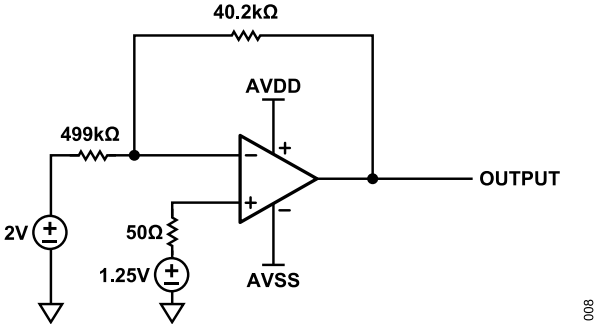

Figure 6. DC Voltage Source Input Test Circuit, Default Gain State
6. Retain the default gain settings. Leave P5 or P4 open for a gain of -0.08 . The equivalent test circuit is shown in Figure 6.